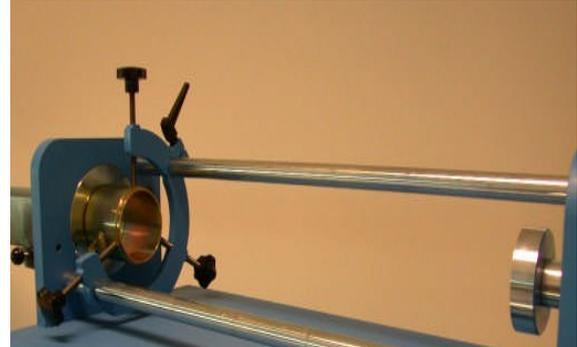

Figure 2
- Insert the mould in the appropriate centring in the die (see Figure 2).
- Put the mould with the specimen to be extruded between the three centring hand grips **E** and tighten the screws evenly (see Figure 2).
- Put the mould group close to the hollow plate **D** by means of the fixing lever placed on the bracket **F** in order to insert the mould into the relevant centring placed on the hollow plate (see Figure 2).